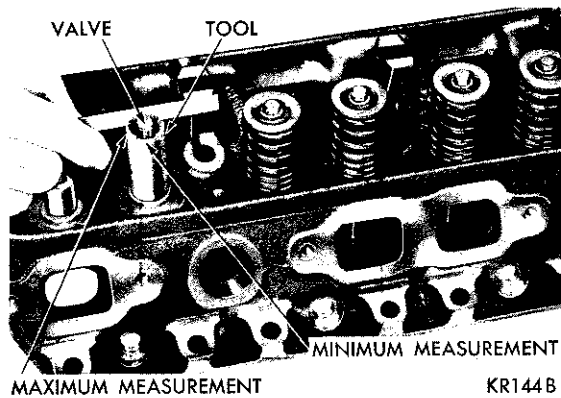

Fig. 12—Measuring Valve Stem Length Using Tool C-3648
(6) The design of the valve mechanism includes a safety factor to allow for a limited amount of wear, and the refacing of the valves and seats.
(7) To insure that the limits have not been exceeded, the dimension from the valve spring seat in the head to the valve tip should be measured with gauge, Tool C-3648, as shown in Figure 12.
(8) The end of the cylindrical gauge and the bottom of the slotted area represent the maximum and minimum allowable extension of the valve stem tip beyond the spring seat.
(9) If the tip exceeds the maximum, grind the stem tip to within the gauge limits. Clean the tappets if tip grinding is required.